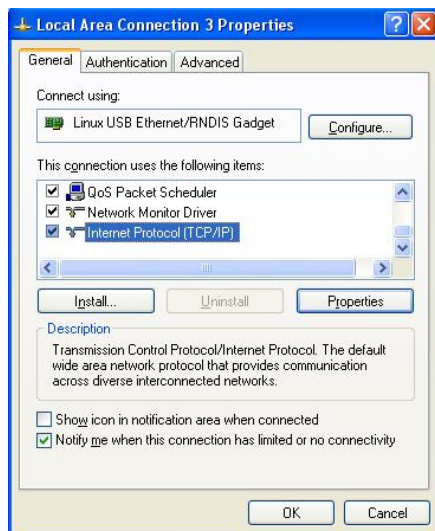
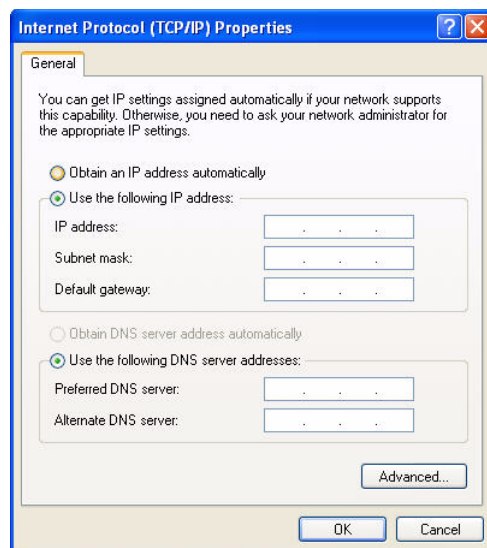

FIG. 27 Local Area Connection Properties
FIG. 28 Internet Protocol (TCP/IP) Properties
3. Right click on the selected device and select **Properties** to open the *Local Area Connection Properties* window (FIG. 27).
4. In the Local Area Connection Properties window (FIG. 27) under the **General** tab, select *Internet Protocol (TCP/IP)* and click on **Properties** to open the *Internet Protocol (TCP/IP) Properties* window. (FIG. 28)